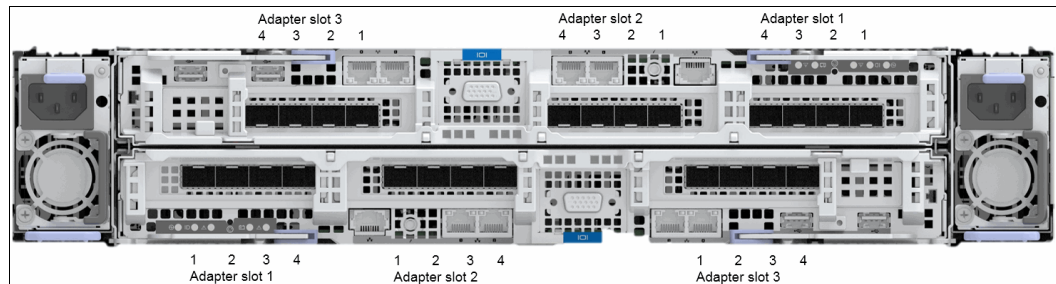

Figure 6-40 Control enclosure fibre channel ports
2. Connect each fibre channel to the specified port. See Figure 6-40 for the adapter location and port location on each adapter.